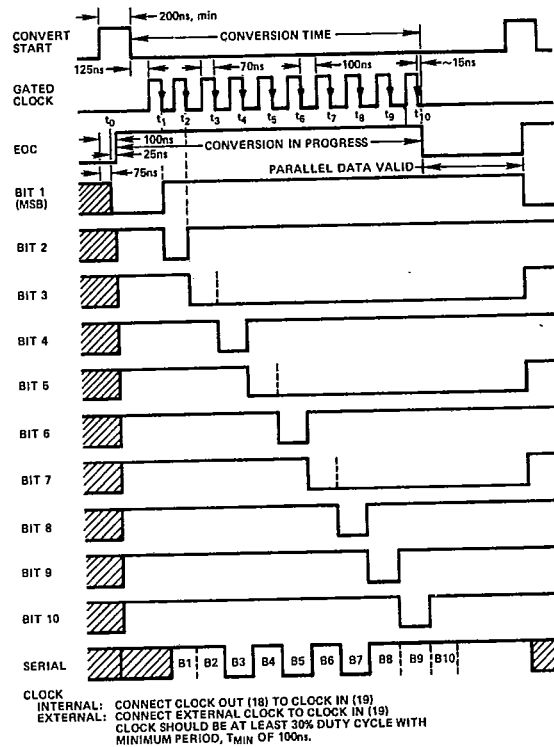

Figure 2. AD579 Timing Diagram
The timing diagram is shown in Figure 2. Receipt of a CONVERT START signal sets the STATUS flag, indicating conversion in progress. This, in turn, removes the inhibit applied to the gated clock, permitting it to run through 10 cycles. All SAR parallel bit and STATUS flip-flops are initialized on the leading edge, and the gated clock inhibit signal is removed on the trailing edge of the CONVERT START signal. At time  $t_0$ ,  $B_1$  is reset and  $B_2 - B_{10}$  are set unconditionally. At  $t_1$  the Bit 1 decision is made (keep) and Bit 2 is unconditionally reset. At  $t_2$ , the Bit 2 decision is made (keep) and Bit 3 is reset unconditionally. This sequence continues until Bit 10 (LSB) decision (keep) is made at  $t_{10}$ . After a 15ns delay period, the STATUS flag is reset, indicating that the conversion is complete and that the parallel output data is valid. Resetting the STATUS flag restores the gated clock inhibit signal, forcing the clock output to Logic "0" state.
Serial data does not change and is guaranteed valid on negative-going clock edges, therefore; serial data can be transferred quite simply by clocking it into a receiving shift register on these edges (see Figure 2).
**Short Cycle Input** — A Short Cycle Input, pin 14, permits the timing cycle shown in Figure 2 to be terminated after any number of desired bits has been converted, allowing somewhat shorter conversion times in applications not requiring full 10-bit resolution. Short cycle pin connections and associated maximum 10- and 8-bit conversion times are summarized in Table II.